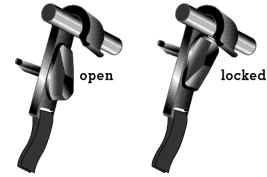

Figure 3: Cam-Loc™
Once all the clips are attached to the pole you may engage the Cam-Loc by turning the key 180° until it locks completely onto the pole. When the Cam-Loc is engaged the key should be horizontal (Figure 3).